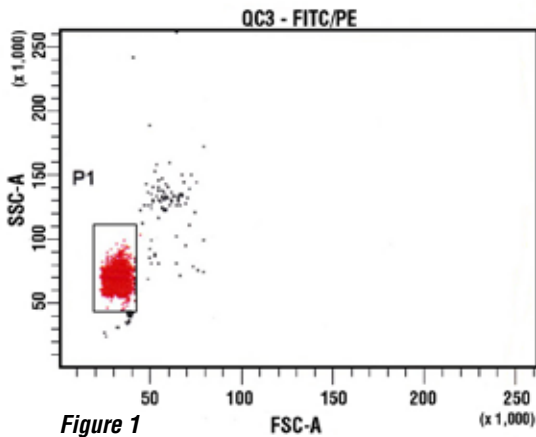

Figure 1
3. Gate on the singlet population of microspheres in a bivariate histogram (dot plot) showing side scatter (SSC) versus forward scatter (FSC). (Figure 1)